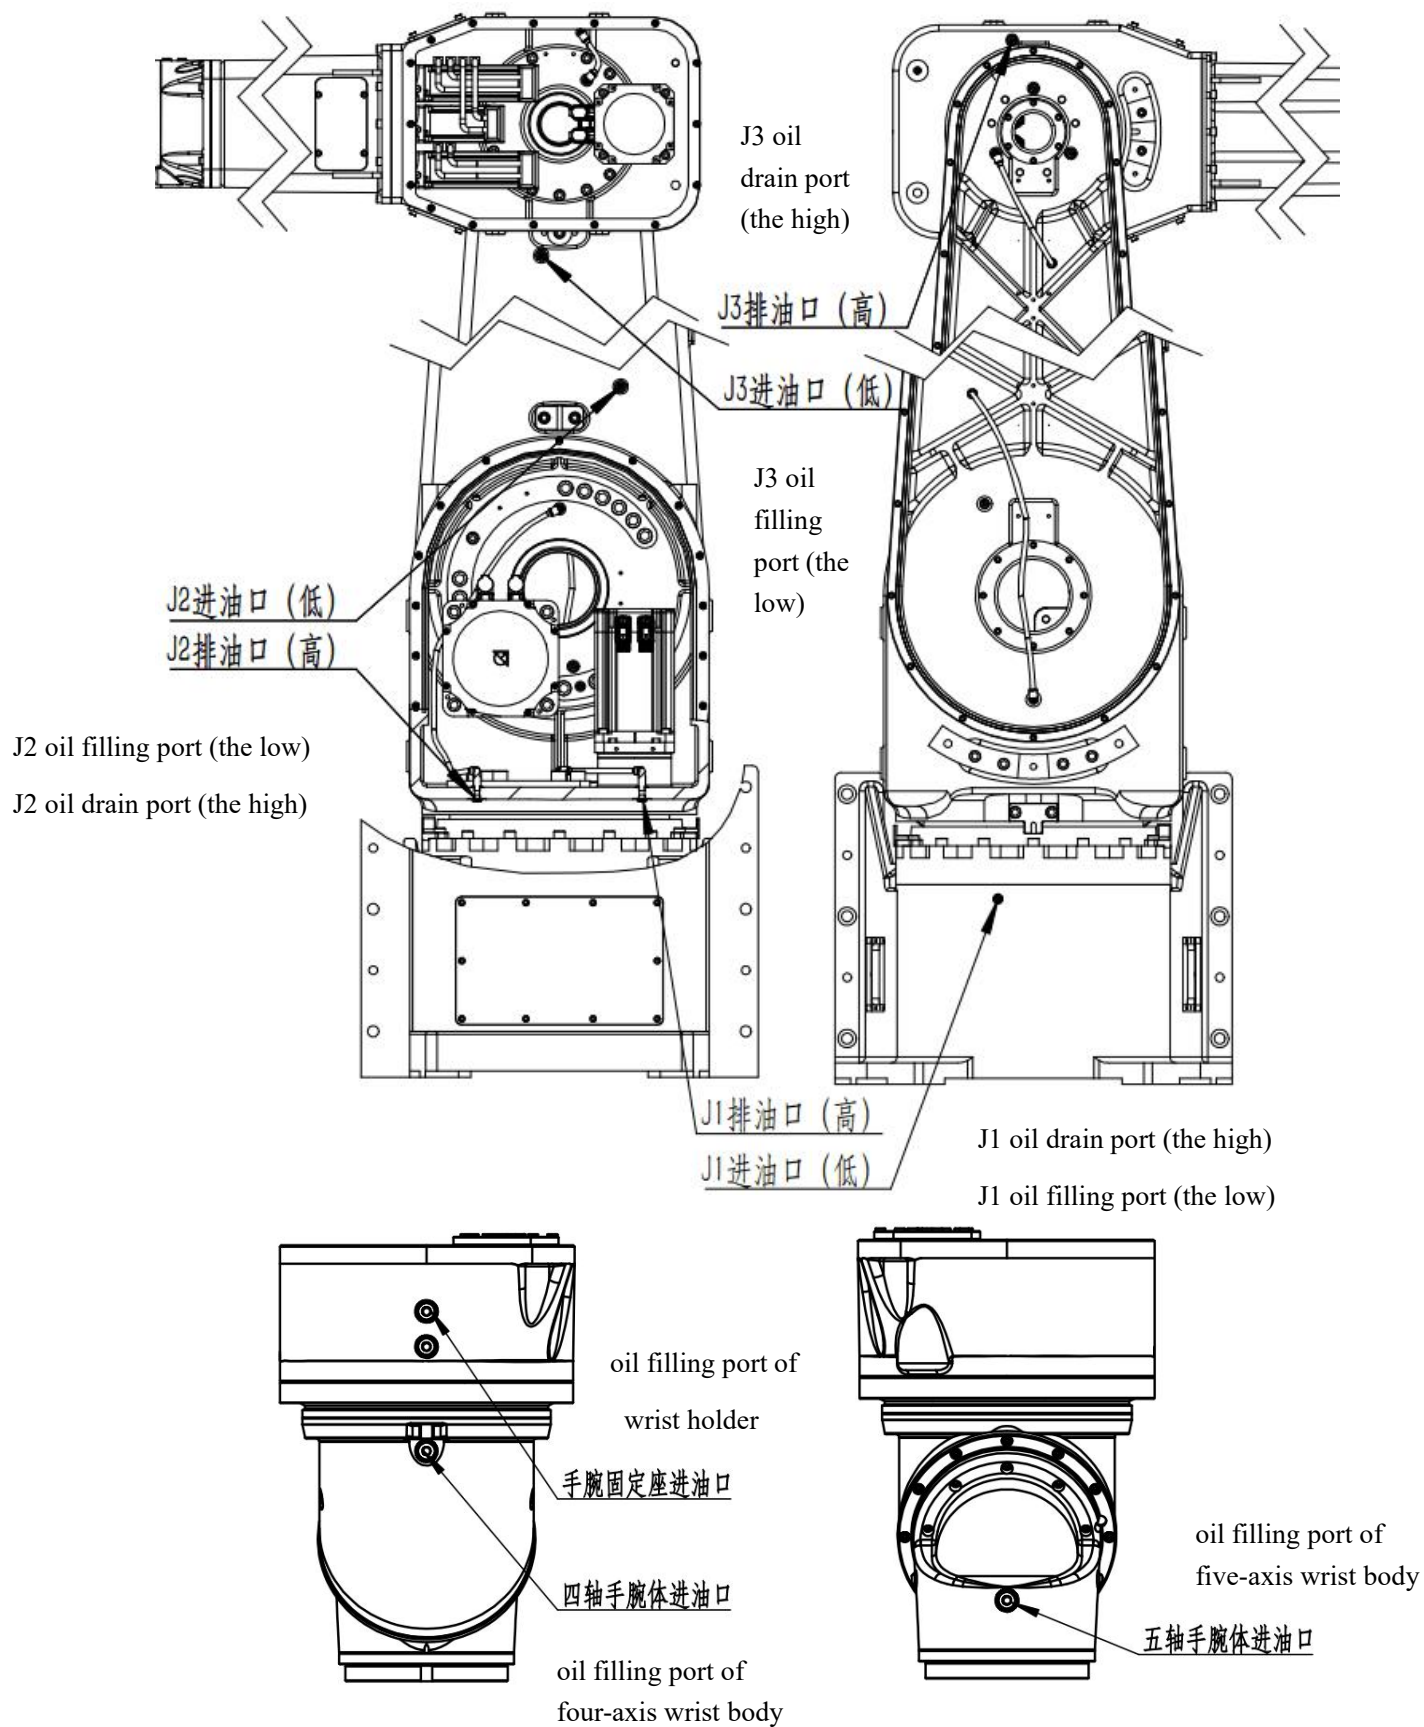

Fig. 4-1 Distribution Map of Oil Filling Port and Oil Drain Port
- (1) Move the robot to the lubrication position described in Table 4.7.
- (2) Cut off the power.
- (3) Remove the hexagon socket screw plugs of the lubricant filling and drain ports, see Figure 4-1.
- (4) Provide the new lubricant until the new one flows out of the oil drain port.
- (5) Install the hexagon socket screw plug on the lubricant filling and drain port.
- (6) After the oil is supplied, follow the steps in item 4.4.4 to release the residual pressure in the lubricant chamber.